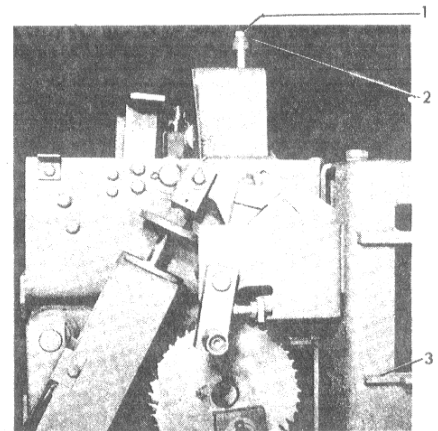

Figure 14. (8034464) Plunger Interlock
Refer to Figure 14. With the breaker in the closed position, the vertical distance "A" from the top of the plunger bolt (1) to the bottom of the breaker lifting rail (3) should be $16-19/32$ " to $16-23/32$ ". To change this adjustment, add or remove washers (2).